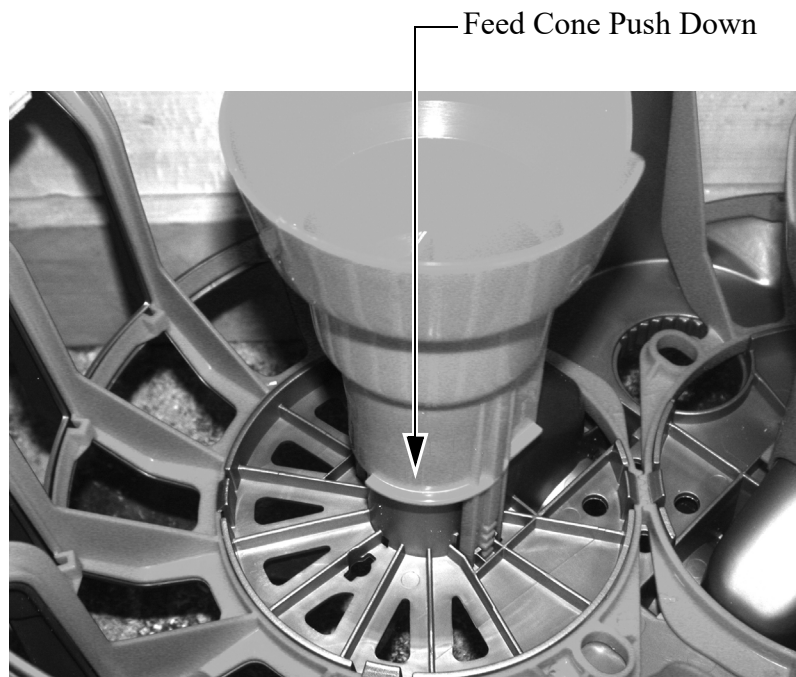

Figure 23. Feed Cone Installation
3. Install two (2) Feed Cones see **Figure 23**.
1. All Pans have two Feed Cones. **Figure 23. on page 17.**
3. All Pans have two adjustable Grills. **See Figure 23.** Be sure that the adjustable Grill Bottom Ring is setting inside the retainer post in Pan.